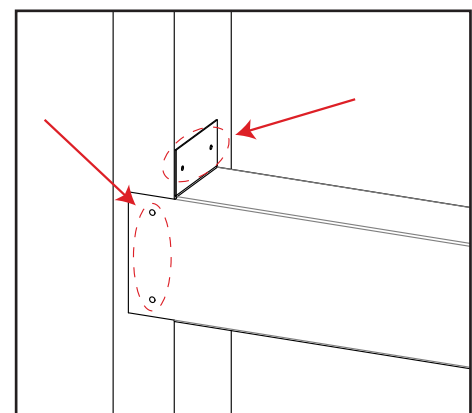

**Figure 15: Steel Stud Placement**
- Place the steel stud onto the top standoffs and slide outwards until both ends make contact with the framing studs (see Figure 15).